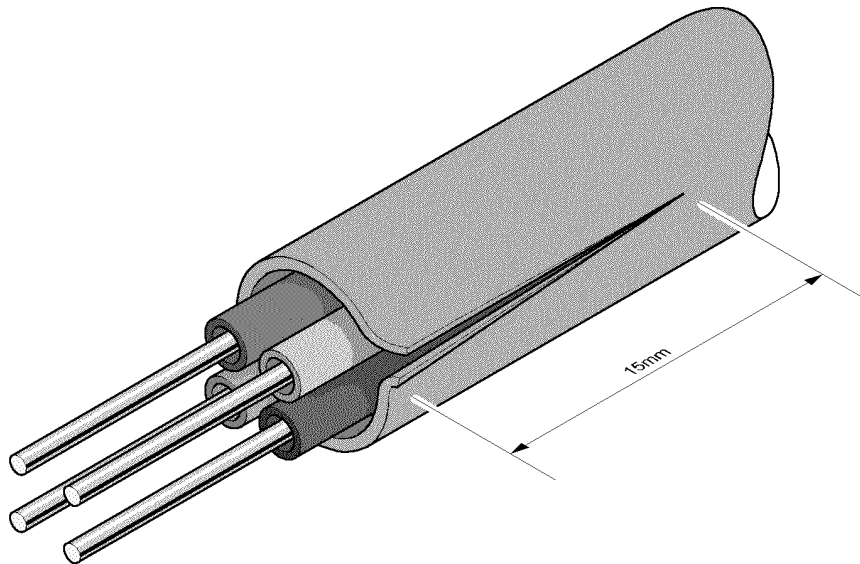

Fig. 7-10
2. Starting 15mm from the end, make a straight slice through the outer insulation only, as shown in Fig. 7-10 below.